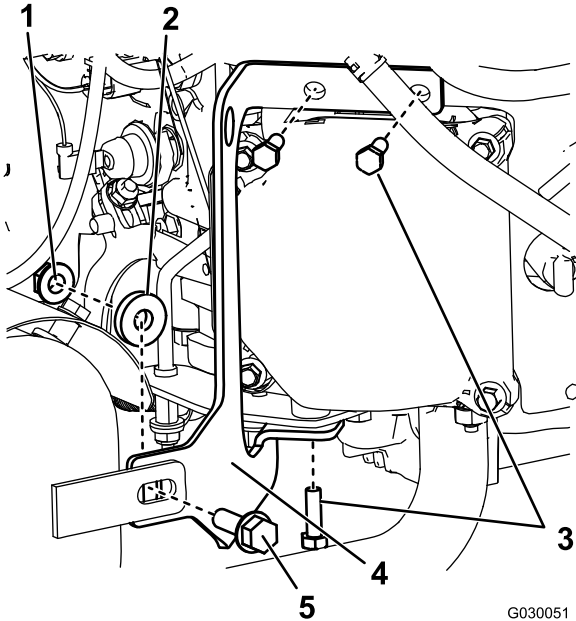
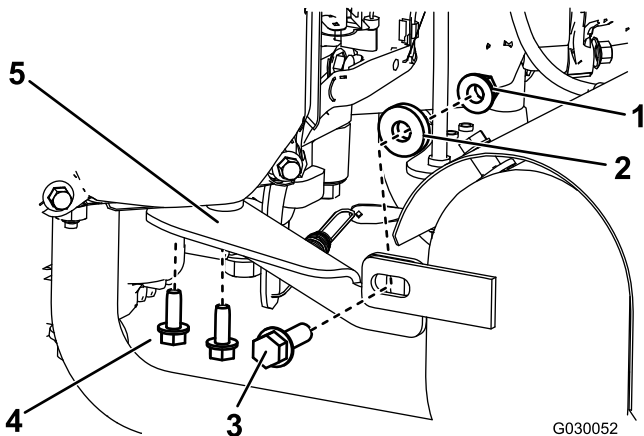

Figure 4
Figure 5
2. Remove the right bracket (Figure 5).
2. Apply thread-locking compound to 2 bolts (M6) that you previously removed and install the new right bracket to the engine (see Figure 5).
3. Apply thread-locking compound to the other 3 bolts (M6) that you previously removed and install the new left bracket to the engine (see Figure 4).
4. Fasten the muffler to each bracket using a nut (5/16 inch), spacer, and bolt (5/16 x 1 inch) as shown in Figure 4 and Figure 5.